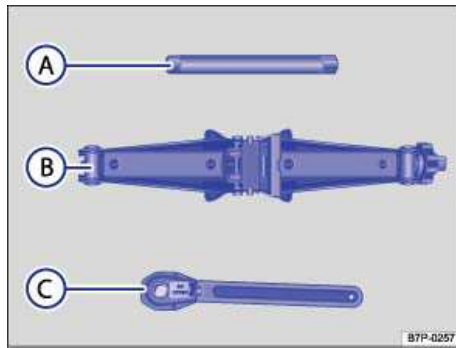

Fig. 340 Scissor jack components.
8. Insert the extension ⇒ fig. 340 \(A\) into the scissors jack **(B)** Attach the crank **(C)** to the extension **(A)**.
9. Find the jack lift point ⇒ fig. 340 on the vehicle frame that is closest to the wheel to be changed.